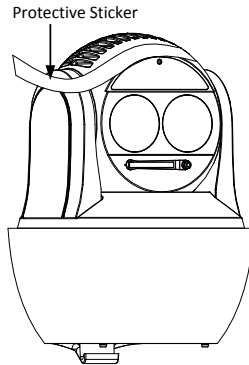

Figure 2-31 Remove Protective Sticker
1. Remove the protective sticker as shown in Figure 2-31.